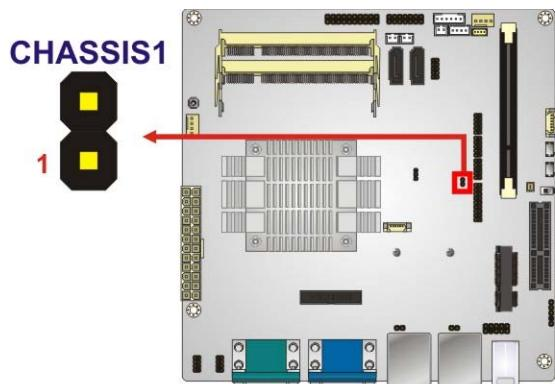

Figure 3-5: Chassis Intrusion Connector Location
**CN Location:** See **Figure 3-5**